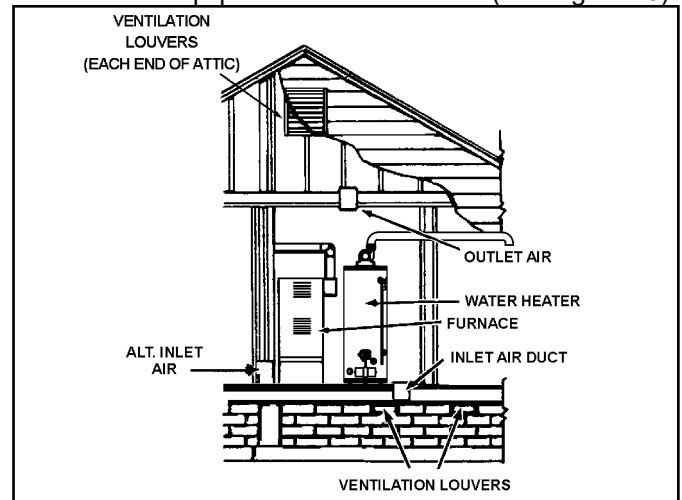
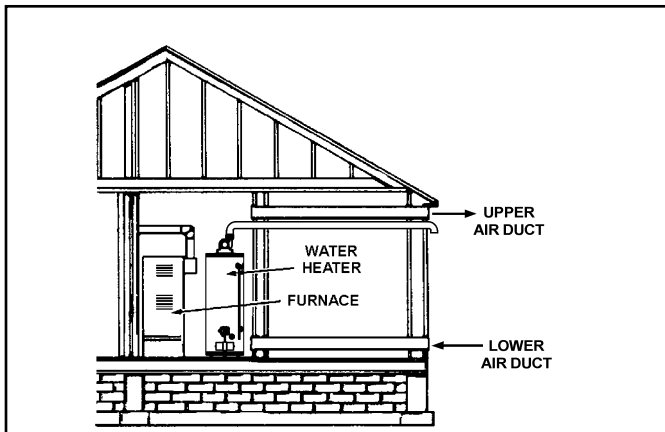

Figure 18.
Figure 20.
B. ALL AIR FROM OUTDOORS: (See Figure 18 through Figure 20)
1. When directly communicating with the outdoors, each opening shall have a minimum free area of 1 square inch per 4,000 Btu/hr of total input rating of all equipment in the enclosure (see Figure 18).
3. When communicating with the outdoors through horizontal ducts, each opening shall have a minimum free area of 1 square inch per 2,000 Btu/hr of total input rating of all equipment in the enclosure (see Figure 20).
4. When ducts are used, they shall be of the same cross-sectional area as the free area of the openings to which they connect. The minimum short side dimension of rectangular air ducts shall not be less than 3 in. (see Figure 20).